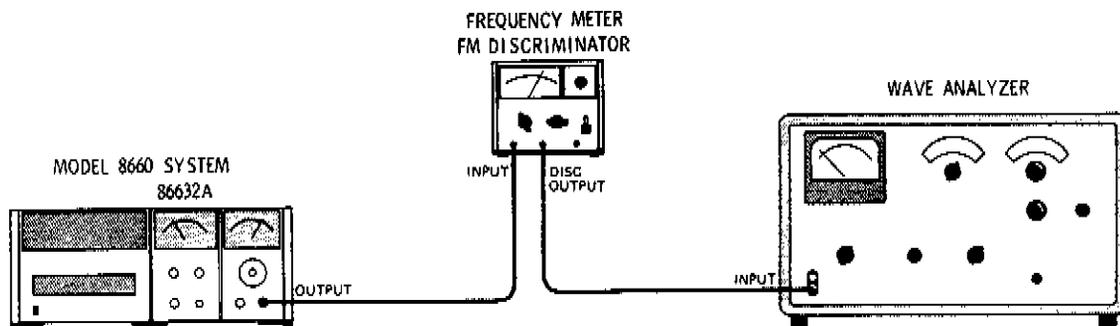

Figure 4-3. FM Deviation and Meter Accuracy Test Setup
6. Connect the equipment as shown in Figure 4-3.